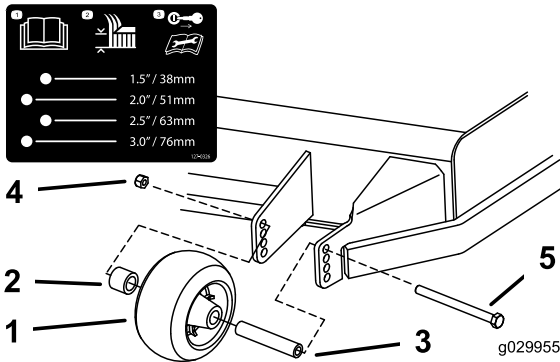
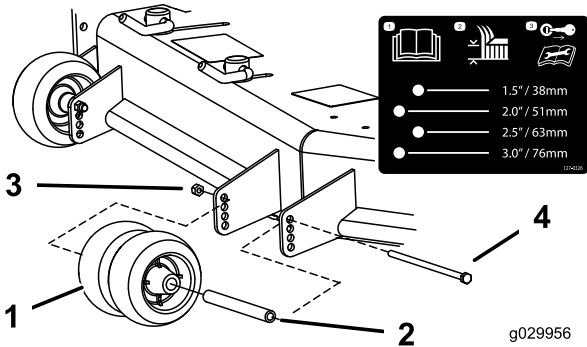
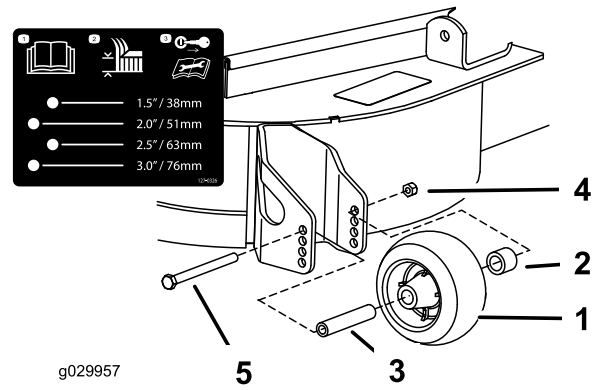

Figure 35
Figure 36
Figure 37
3. Adjust the anti-scalp rollers as shown in Figure 35, Figure 36, and Figure 37.